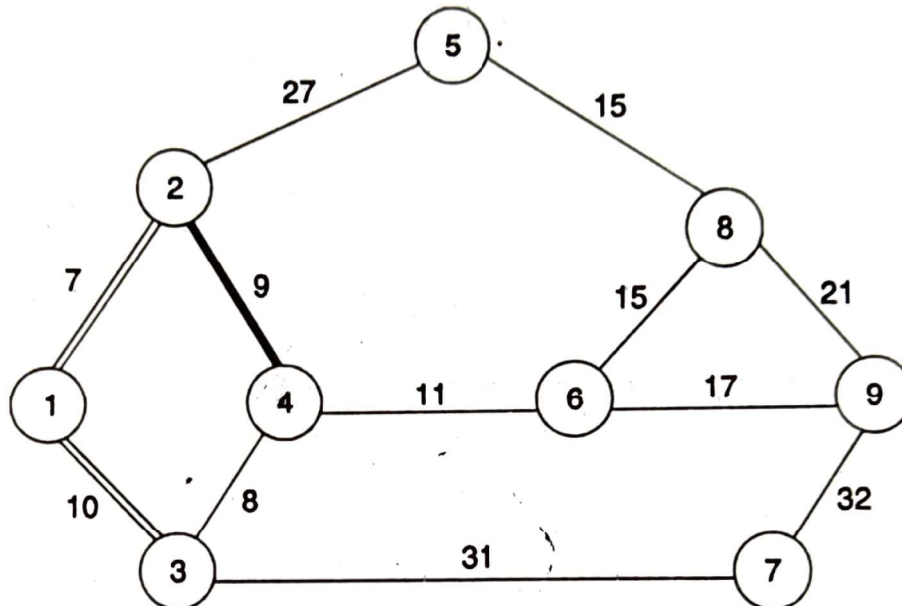

Fig. 5.9 Network showing partial solution.
2.2 The iteration among the preceding iterations in which the distance to L from the starting node is different from X is the Iteration 1. The node selected in that iteration is 2. So, thicken the arc 2-4 as shown in Fig. 5.9.